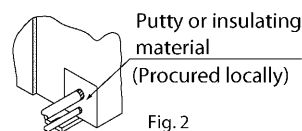

Fig. 2
- Plug the pipe through-holes with putty or insulating material (procured locally) to stop up all gaps, as shown in Fig. 2.